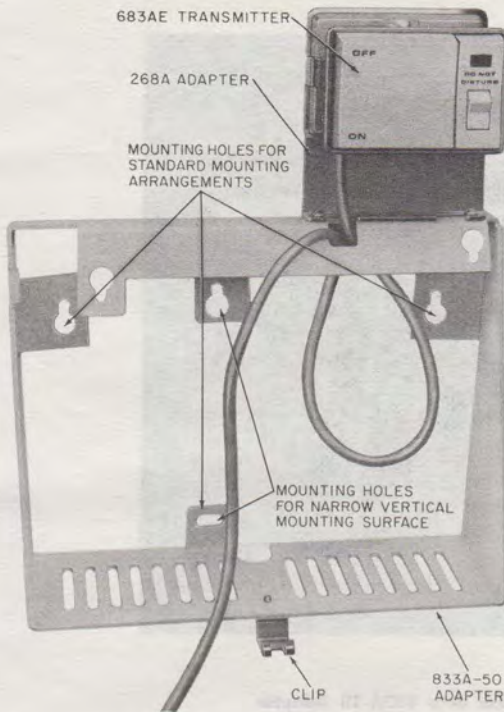
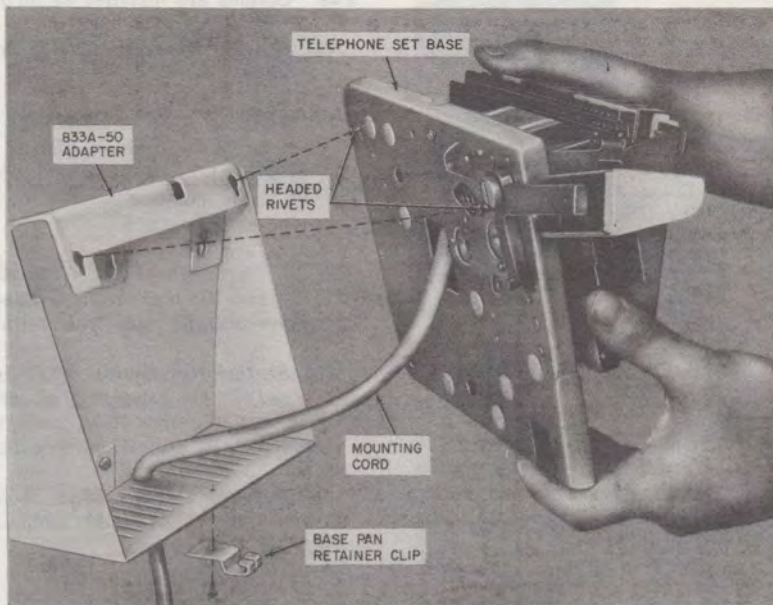

Fig. 3—833A-50 Adapter with 268A Adapter and 683AE Transmitter
Fig. 4—Mounting Telephone Set Base onto 833A-50 Adapter
**3.02** All DM and EM (wall type) sets are shipped with an 833A-50 adapter, screw, and clip (Fig. 3) which are used for mounting the telephone set to a vertical surface. Install the 833A-50 adapter and telephone set as follows.
- (1) Mount the adapter to the wall or vertical surface as shown in Fig. 3, using appropriate fasteners (Section 080-720-105). If the mounting cord is to be dressed down the wall, it is necessary to pass the cord through the notch in the adapter before final attachment of the adapter to the wall (Fig. 4). If the cabling enters through the wall, the mounting cord may be contained within the adapter.
- (2) Remove faceplate and housing from telephone set.
- (3) Hang the telephone set on the adapter from the headed rivets that protrude from the base pan (Fig. 4).
- (4) Secure the telephone set base with the clip, and screw at the bottom of the adapter (Fig. 3).
- (5) Install telephone set options (see paragraph 3.05).
- (6) Replace housing and faceplate.
- (1) If feature is to be added to DM- or EM-type set, a 268A adapter must be used as follows:
- (a) Mount 268A adapter onto 833A-50 adapter with two screws as shown in Fig. 3
manual DO-NOT-DISTURB switch. Depression of the switch (Fig. 3) prevents voice signaling, alerting tone, and activation of the microphone. A distinctive tone is sent to any station that is calling another station on *dial intercom* when the called station does not want to be disturbed. The only signal that can be received by a station or answering position with the DO-NOT-DISTURB switch activated are tone ringing and the alerting tone and one way voice signaling associated with an *automatic signaling intercom*.